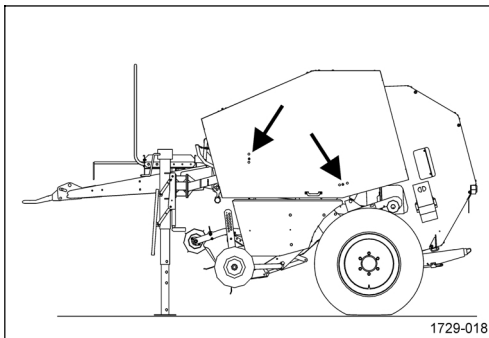

Figure 5
- Catches at the left and right guard casing: Figure 5